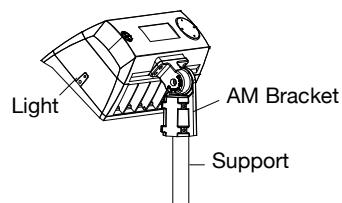

Figure 8
- STEP 2:** Loosen the fixing bolts and adjusting bolts, align the fixture to required angle. Tighten adjusting bolt and fixing bolts after the angle is confirmed. (FIGURE 8)
- NOTICE:** Adjustable angle is 0~±194° (FIGURE 8)